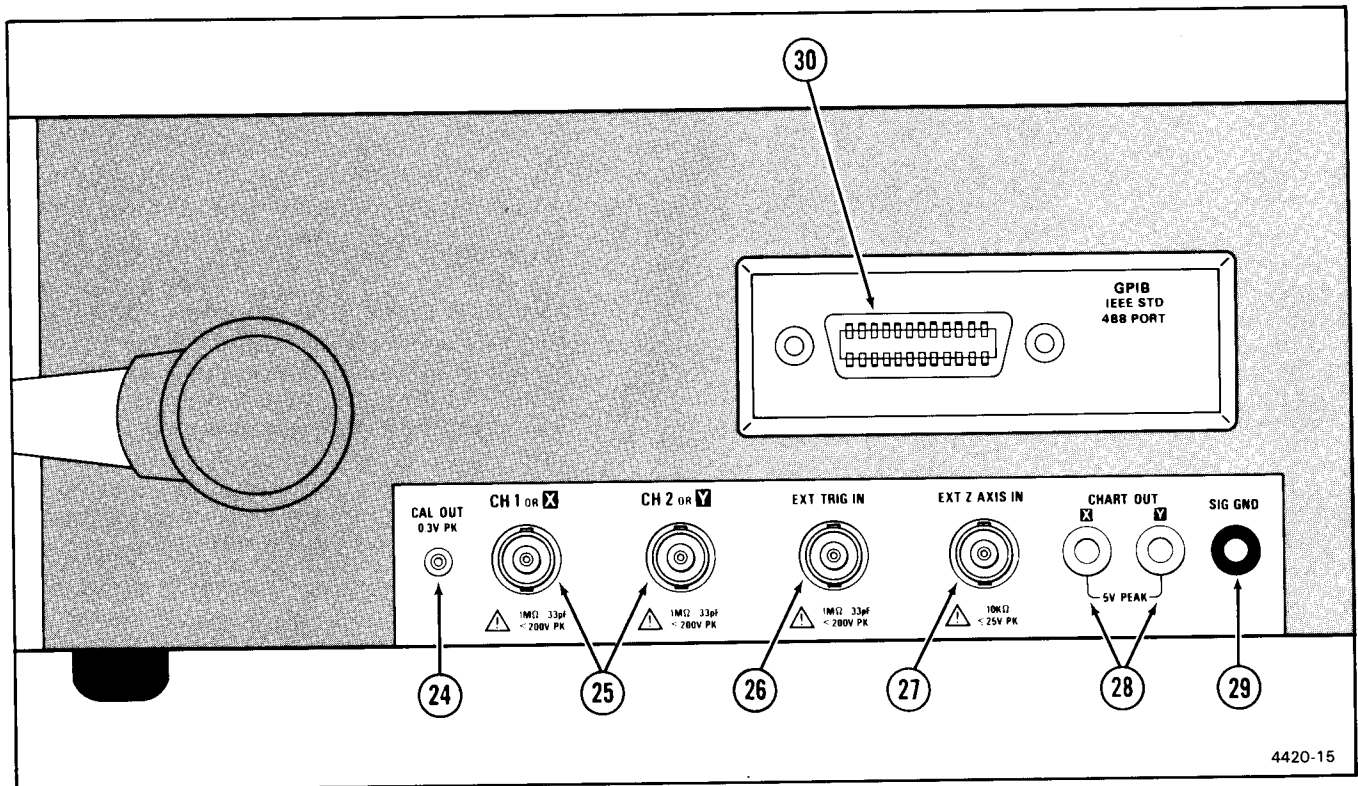

Figure 2-10. Right side panel connectors.
Refer to Figure 2-10 for location of items 24 through 30.